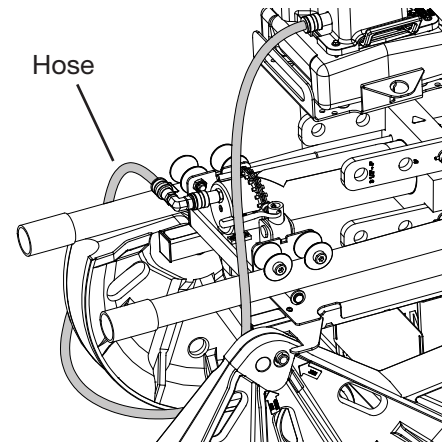

Figure 23
8. Tuck the pump hose out of the way behind the 3-1/2 in. bending shoe (Fig. 23).